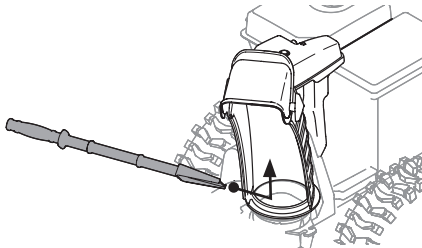

Figure 65
4. Use the shovel-shaped end of the clean-out tool to dislodge and scoop any snow and ice which has formed in and near the chute assembly. Always use the clean-out tool (Part # 931-2643), not your hands. Refer to the separate supplement for clean-out tool ordering information, if lost or damaged (Figure 65).